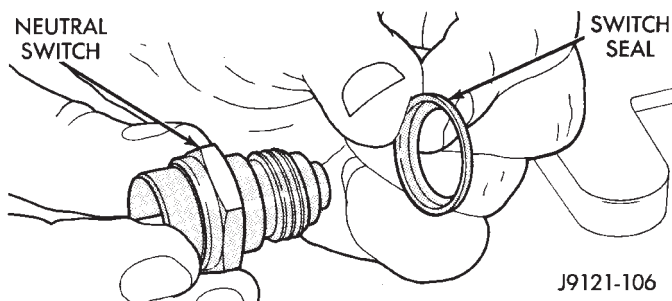

Fig. 135 Park/Neutral Position Switch Seal Position
(33) Install new filter on valve body. Tighten filter screws to 4 N·m (35 in. lbs.).
(34) Adjust front and rear bands.
(35) Install seal on park/neutral position switch (Fig. 135). Then install and tighten switch to 34 N·m (25 ft. lbs.).